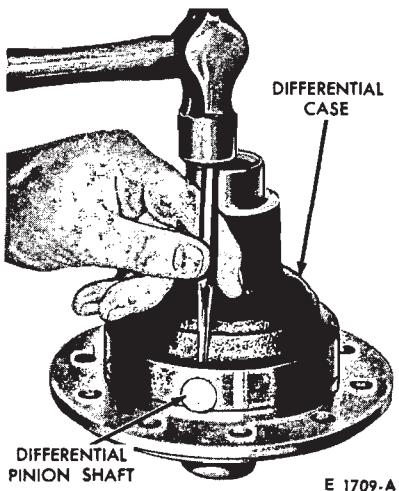

FIG. 18—Removing Differential Pinion Shaft Lock Pin
6. With a drift, drive out the differential pinion shaft lock pin (Fig. 18), and separate the 2-piece differential case.